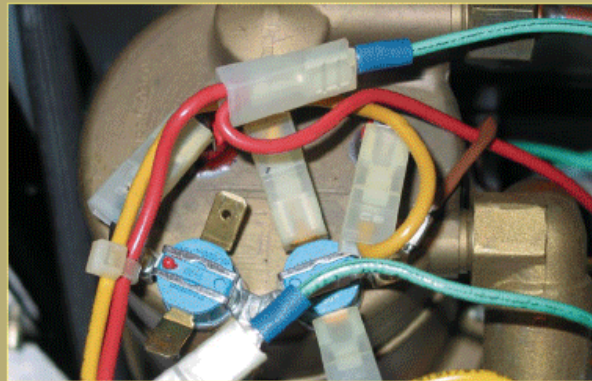

Fig. 3 Boiler detail with thermocouple and SSR wires installed.
- 5c.** Plug the connectors into the wires detached from the thermostat in step 4 (see Fig. 3).
5e. Attach the bare wire ends to the SSR. There are four terminals on the SSR; on mine, they were labeled L1, T1, A2(+), and A2(-). Attach the wires to L1 and T1. It does not matter which wire goes to L1 or which to T1. My SSR has screw/clamp terminals; simply slide the wire into the terminal and tighten the screw to hold it in place. If necessary, trim the wires before attaching to the SSR so there is not an excess of wire behind the splashguard (see Fig. 3).